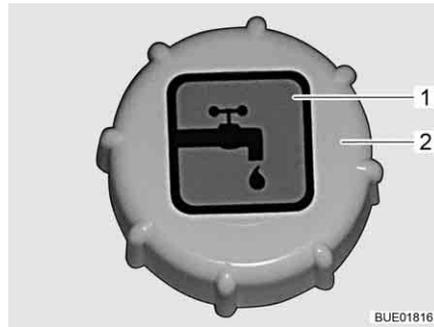

Fig. 219 Cap for the drinking water filler neck
The drinking water filler neck is indicated by the symbol "☰" (Fig. 219,1).
- Turn the cap (Fig. 219,2) anticlockwise and remove.